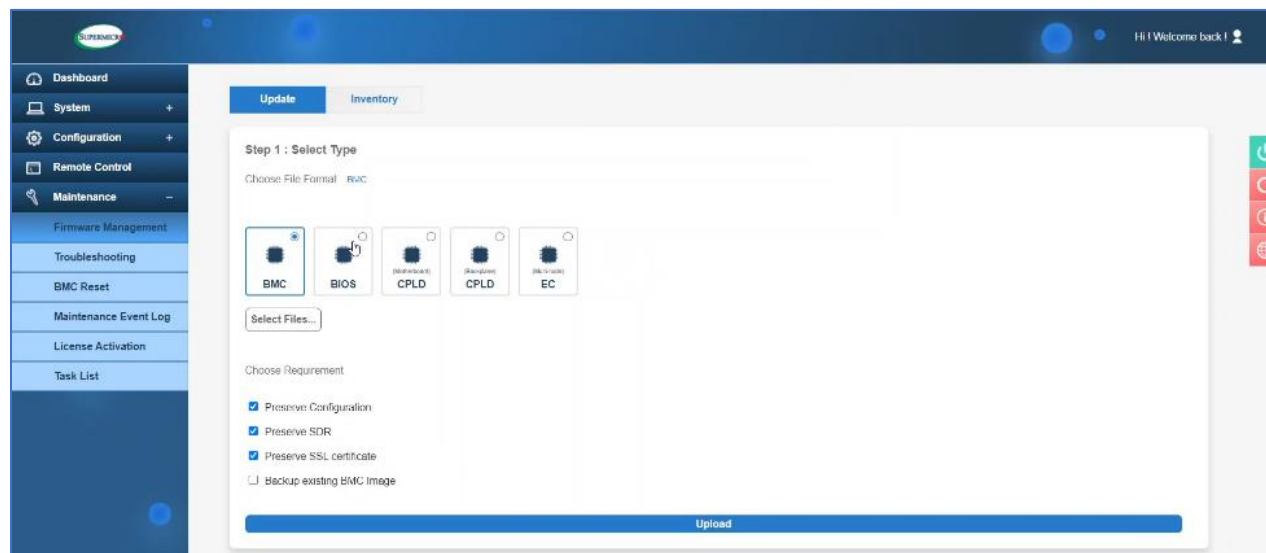

Figure 10 – BMC Web UI for Firmware Management
The backplane’s CPLD can help recover any stalled bus to ensure the backplane’s Embedded Controller (EC) can reliably manage firmware updates through the dedicated Firmware Management panel, shown in **Figure 10**.